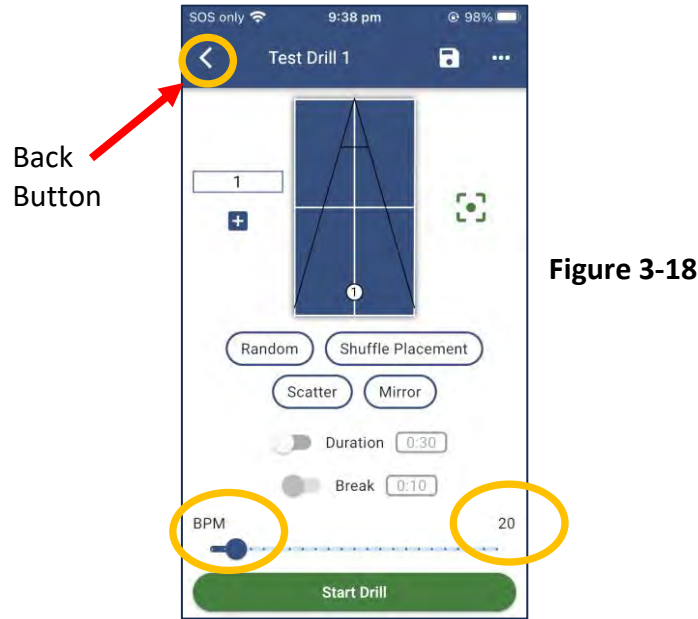

Figure 3-18
4. Move the BPM slider to set the balls per minute to 20 (Figure 3-18).